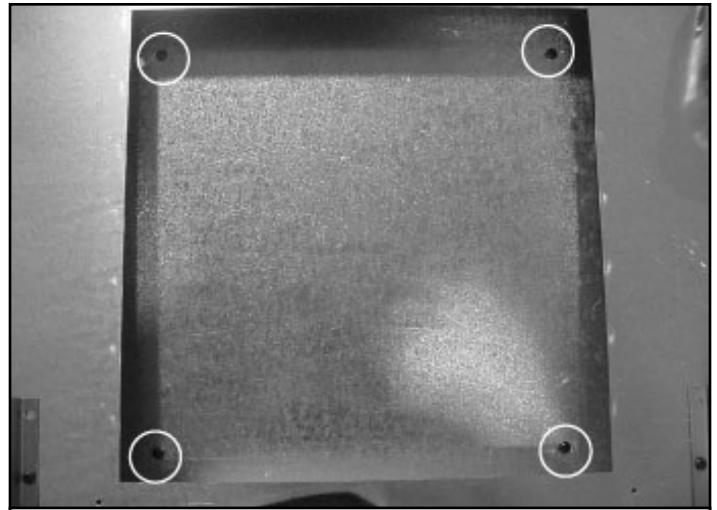

Figure 7.14 Cover Plate-Replace
- Locate heat shield cover plate removed in the first step. Place the heat shield cover plate on top of heat shield. Replace four screws to hold this plate in place. See Figure 7.14.